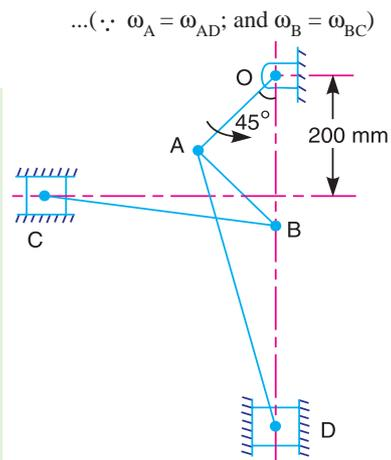

Fig. 7.26
**Example 7.11.** The dimensions of the various links of a pneumatic riveter, as shown in Fig. 7.26, are as follows :